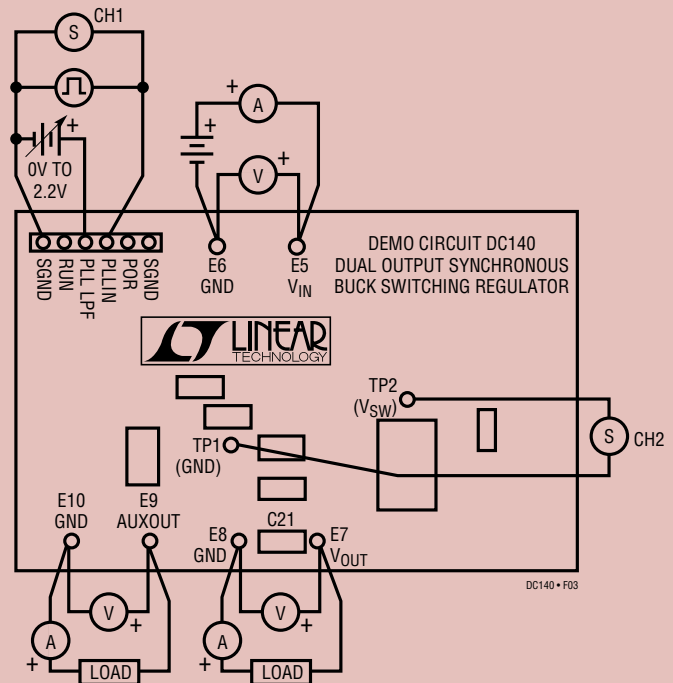

Figure 3. Proper Measurement Setup
1. Connect the input voltage power supply, output loads and meters as shown in Figure 3. For best accuracy, it is important to connect true RMS reading voltmeters directly to the PCB terminals where the input and output voltages are to be measured. True RMS reading ammeters should also be used for current measurements.
3. Connect a pulse generator and oscilloscope between SGND and PLLIN, as shown in Figure 3. Adjust the pulse-generator output for a peak voltage of 2V to 9V, adjust the frequency to about 250kHz and set the duty cycle to about 50%. Note, the circuit will not be damaged if the pulse generator is turned on or off, regardless of whether the input voltage to the DC140 is turned on or turned off.
5. As an alternate method of controlling the  $V_{SW}$  frequency, turn off the pulse generator and connect an adjustable bias supply between SGND and PLL LPF, as shown in Figure 3. Set the oscilloscope to trigger on channel 2 and observe the frequency change as the bias supply voltage is adjusted from 0V to 2.2V. Caution: the **absolute maximum** voltage rating of the PLL LPF pin is 2.7V. Although the DC140 has a 10k protection resistor between the IC and the PLL LPF terminal, the bias supply voltage should never be greater than 2.7V.